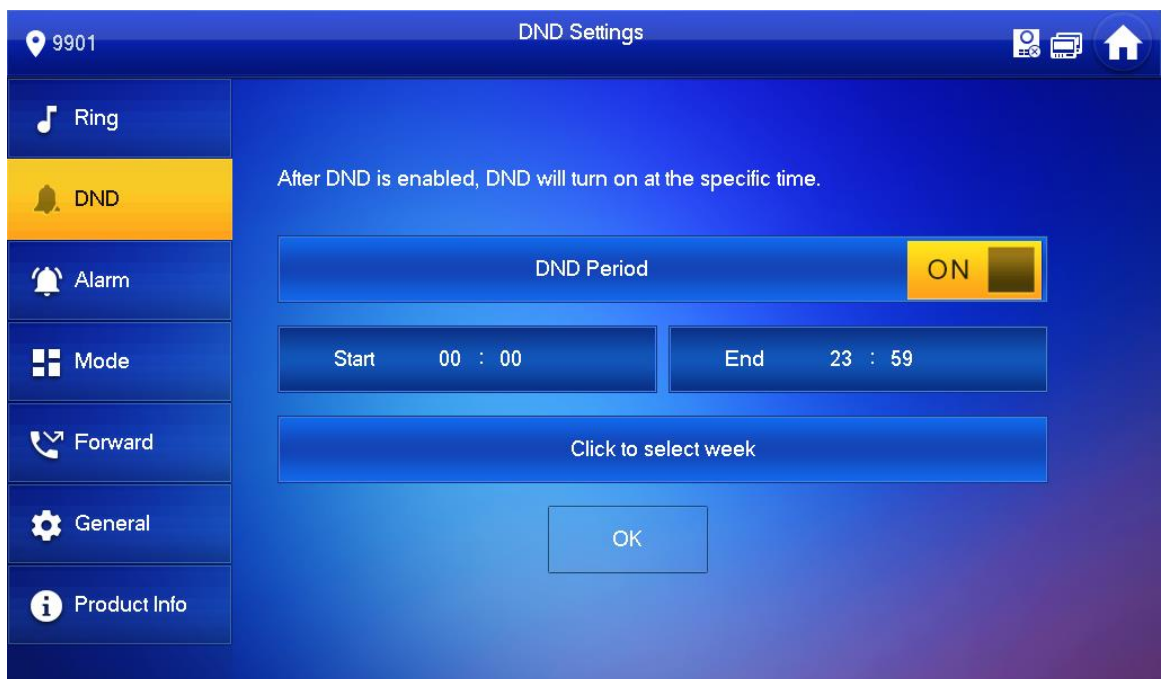

Figure 6-7
Step 4 Press OFF to enable DND function, and the icon becomes ON. The system displays DND period, as shown in Figure 6-7.